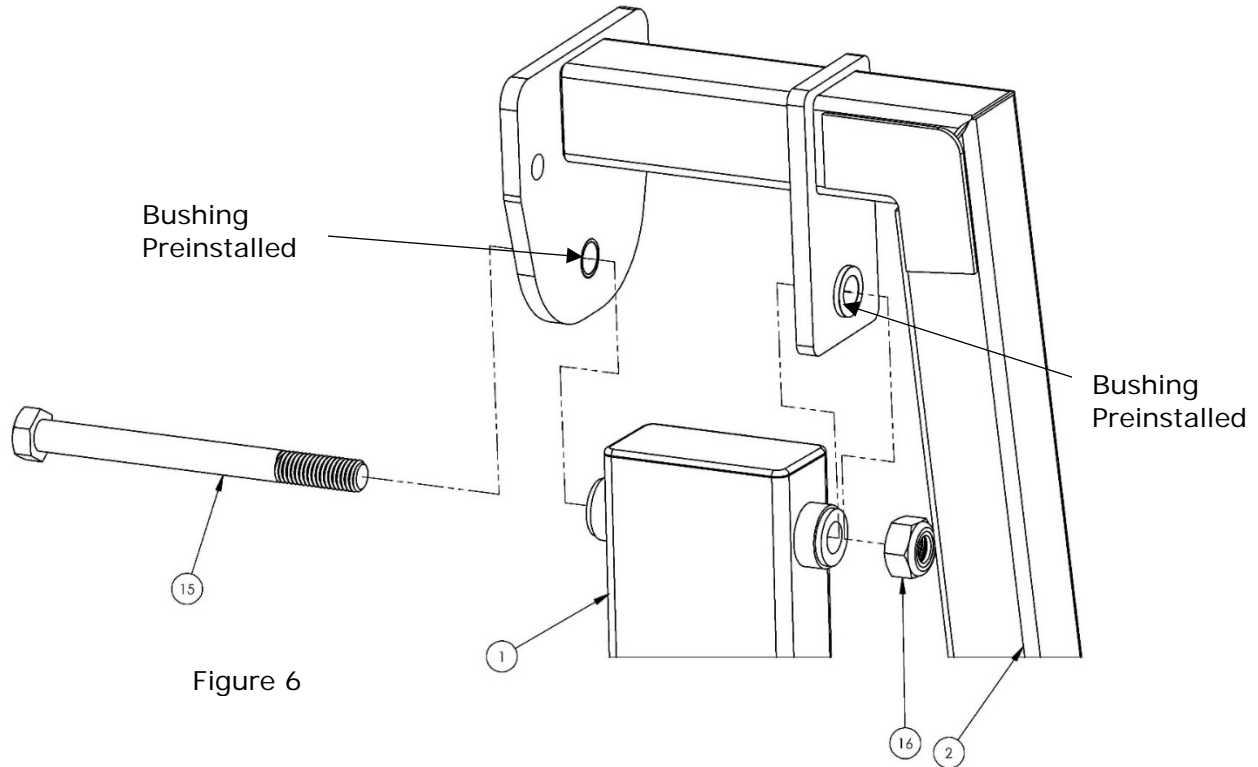

Figure 6
7. Install the seat arm to the multiLift2 assembly by using Hardware Kit 580-7000 as shown in Figure 6.